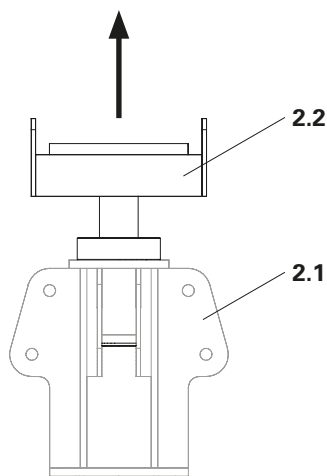

Fig. D2.04
2. Remove spindle (**2.2**) from the Head Spindle (**2.1**). (Fig. D2.04)